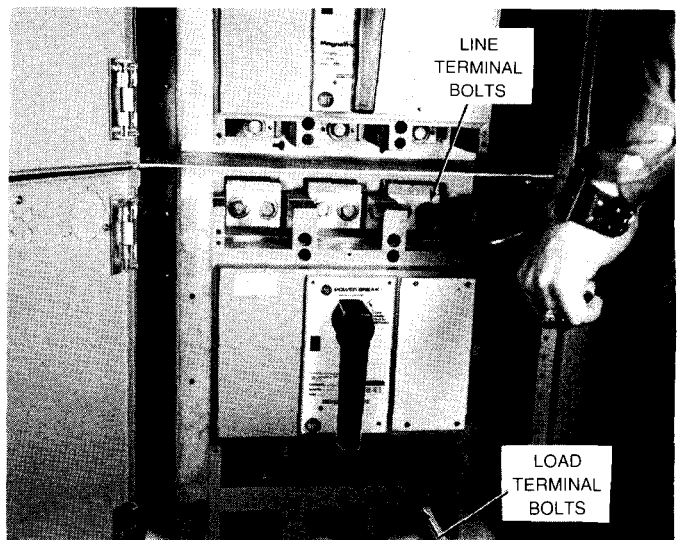

FIGURE 30.
4. Remove bolts on A & C terminals. (Fig. 30).